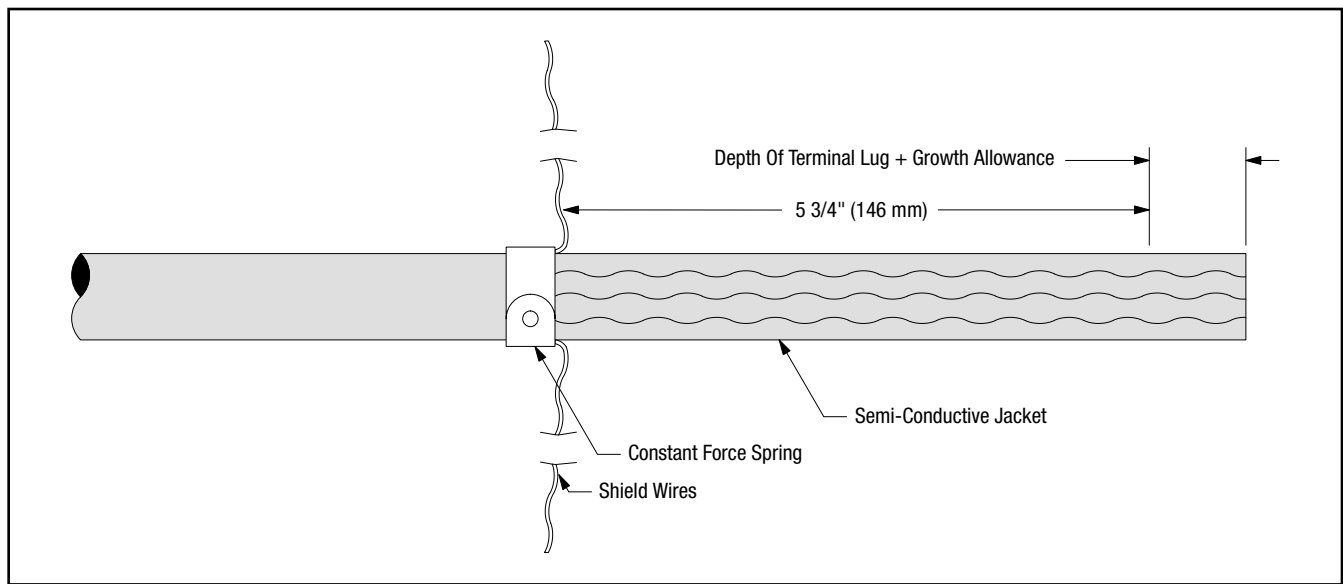

Figure 15
12.2 Prepare cable using dimensions shown in *Figure 15*. **BE SURE TO ALLOW FOR DEPTH OF TERMINAL LUG.**
12.3 Install constant force spring as shown in *Figure 15*. Pull shield wires through semi-conductive jacket to leading edge of constant force spring (*Figure 15*).